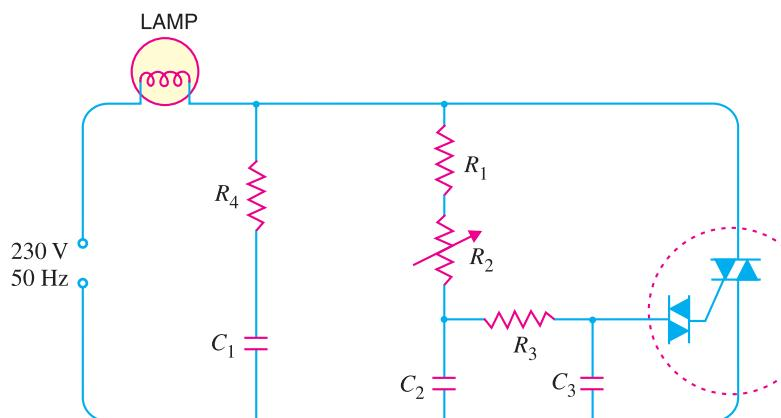

Fig. 21.19
**(i) Lamp dimmer.** Fig. 21.19 shows a typical circuit that may be used for smooth control of a.c. power fed to a lamp. This permits to control the light output from the lamp. The basic control is by an  $RC$  variable gate voltage arrangement. The series  $R_4 - C_1$  circuit across the triac is designed to limit the rate of voltage rise across the device during switch off.
**(ii) Heat control.** Fig. 21.21 shows a typical diac-triac circuit that may be used for the smooth control of a.c. power in a heater. This is similar to the circuit shown in Fig. 21.19. The capacitor  $C_1$  in series with choke  $L$  across the triac helps to slow-up the voltage rise across the device during switch-off. The resistor  $R_4$  in parallel with the diac ensures smooth control at all positions of variable resistance  $R_2$ .